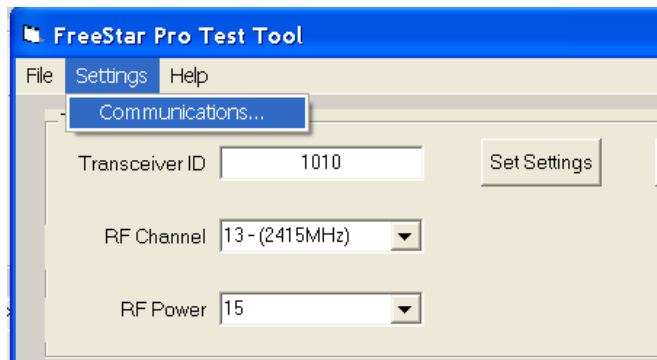
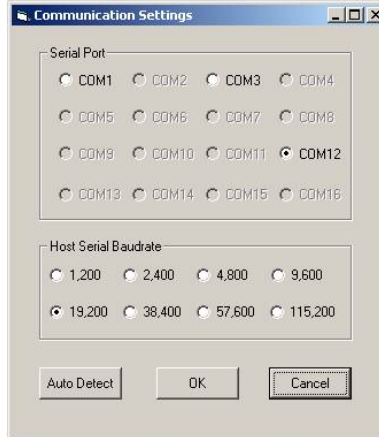

Figure 8 – Screen, Test Tool – Communications Settings
Figure 9 – Screen, Test Tool – Port & Baud Rate Settings
- 1) Click on the ‘**Settings**’ menu and click the ‘**Communications**’ Pull down entry as shown in Figure 8. The screen shown in Figure 9 will appear.